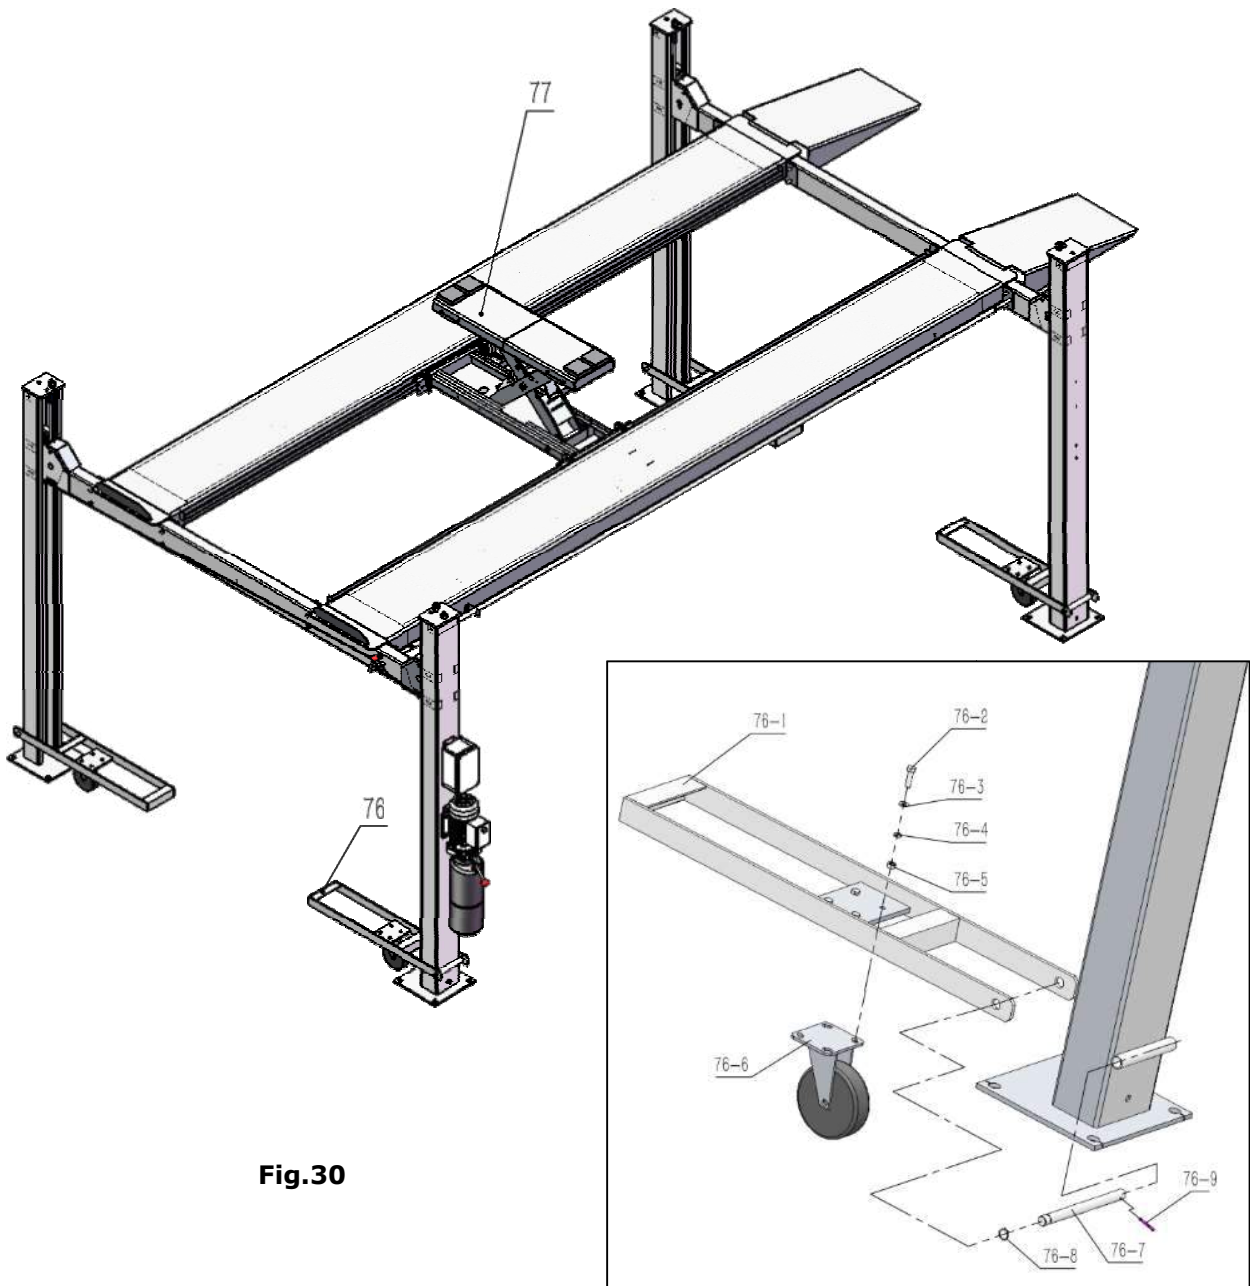

Fig.30
1. Install optional caster kits or jack(assembly body)-----optional(**See Fig.30**)